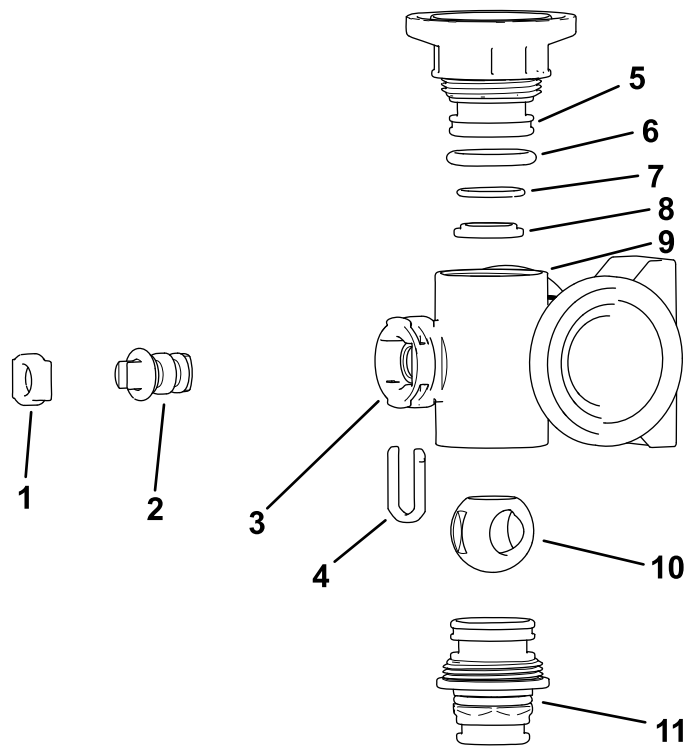

Figure 112
- 2. Remove the 2 end-cap-fitting assemblies from each end of the manifold body (Figure 112 and Figure 113).
- Remove the stem retainer from the slots in the stem port in the manifold (Figure 112 and Figure 113).
- Remove the stem retainer and valve-stem seat from the manifold (Figure 112 and Figure 113).
- Reach into the manifold body and remove the valve-stem assembly (Figure 112 and Figure 113).
- Check the condition of the outlet fitting O-rings (section-valve manifold only), end cap O-rings, back seating O-rings, and ball seat for damage or wear (Figure 112 and Figure 113).
- Apply grease to the valve stem and insert it into the valve-stem seat (Figure 112 and Figure 113).
- Install the valve stem and seat into the manifold and secure the stem and seat with the stem retainer (Figure 112 and Figure 113).
- Ensure that the back seating O-ring and the ball seat are aligned and seated into the end-cap fitting (Figure 112 and Figure 113).
- Install the end-cap-fitting assembly onto the manifold body until the flange of the end-cap fitting touches the manifold body (Figure 112 and Figure 113), then turn the end-cap fitting an additional 1/8 to 1/4 turn.